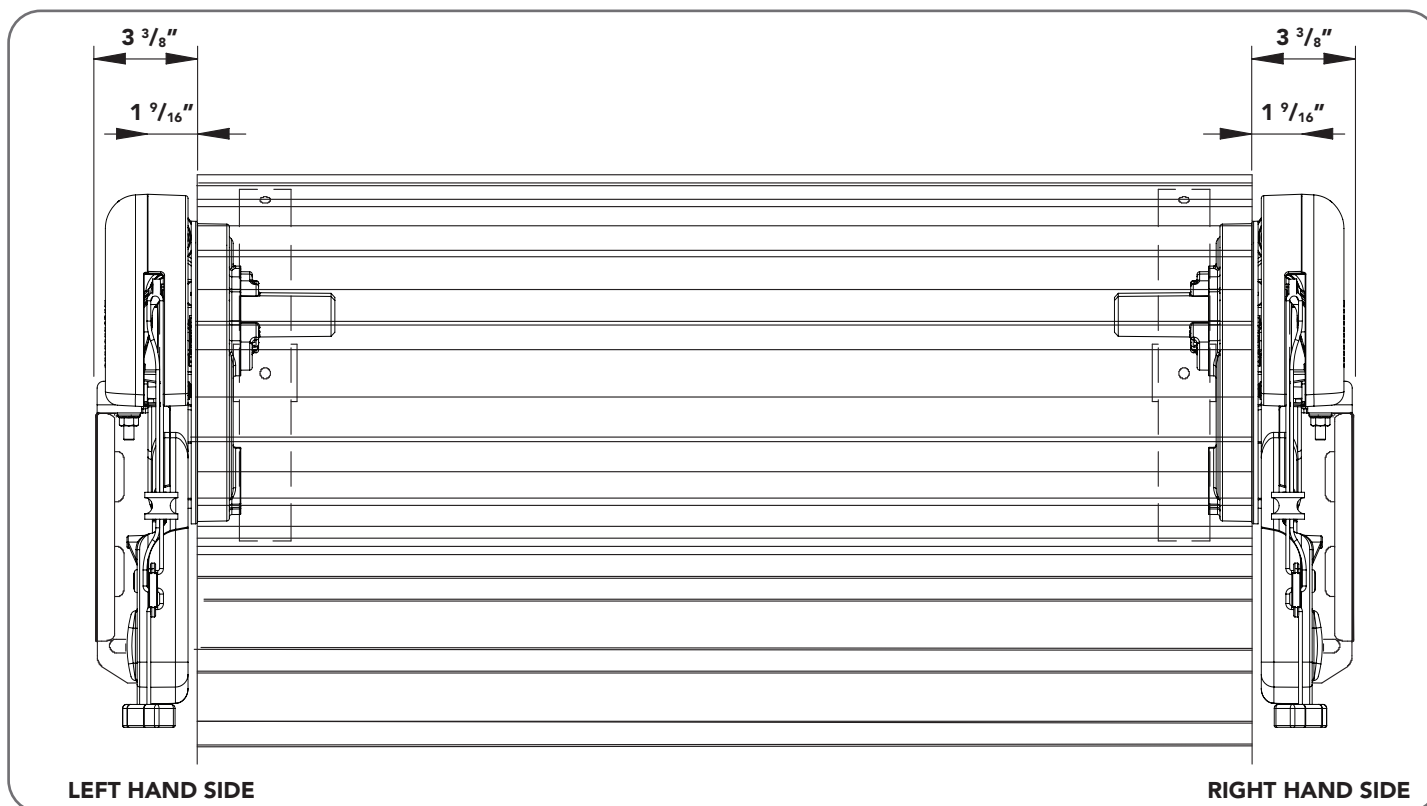

Fig. 4.2.1
- Is factory set for RIGHT HAND SIDE installation (from inside garage), but capable of LEFT HAND SIDE installation. **Fig 4.2.1**